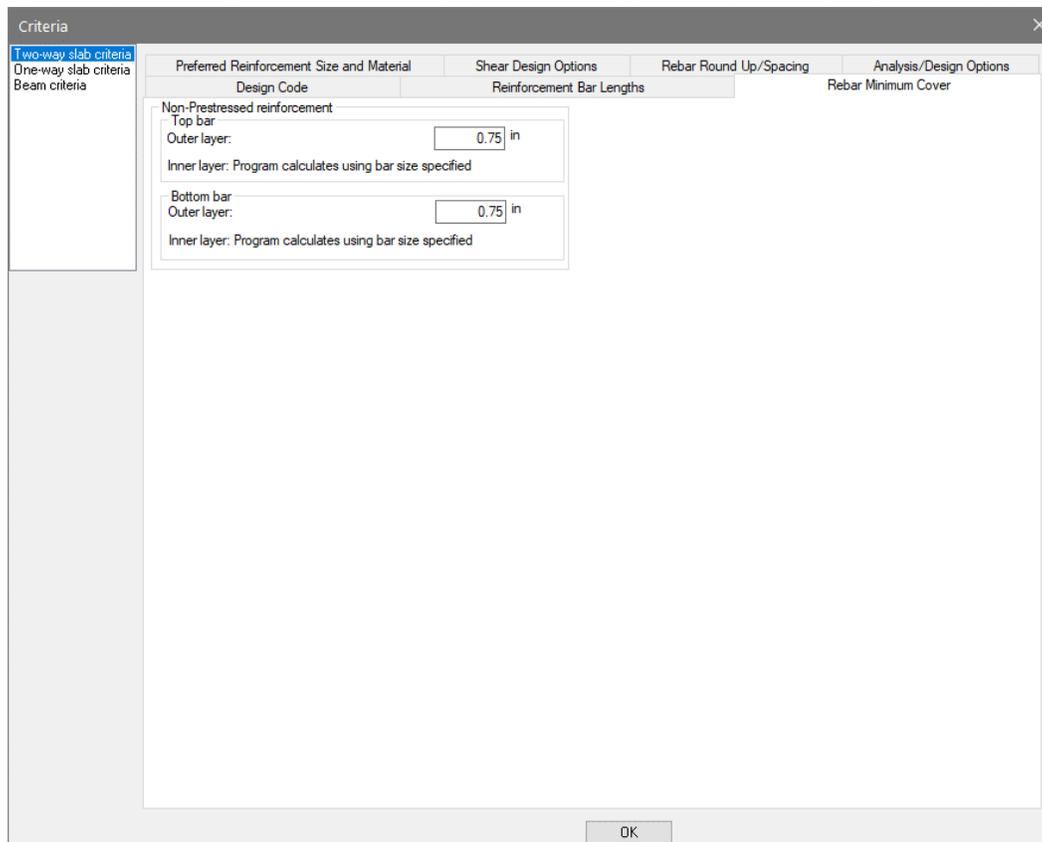

Figure 2-11
- Click on the *Rebar Minimum Cover* tab. This will open the window from **FIGURE 2-11**.